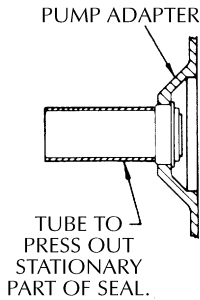

Figure 2
1. Drive the old seal out of the adapter. Use a piece of pipe or tubing as shown in Figure 2.